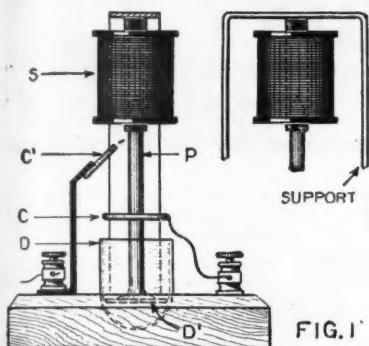
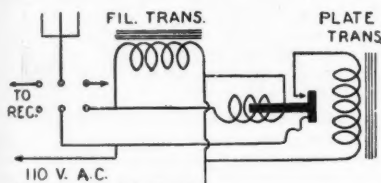

FIG. 1
FIG. 2
When the platinum contact of a Ford spark coil vibrator burns off, a piece of stiff brass in the shape of a T is discarded. This piece, shown at Fig. 1, has many uses, a few of which follow:
1. *A Bushing for Varico-couplers.* Bend the whole piece in the shape of a "U," after drilling a $\frac{1}{4}$ -inch hole about $\frac{5}{16}$ inches from the "T" end. The addition of a small coil spring makes a bushing almost identical with those used on a well-known commercial tuner. The method of assembly is shown in Fig. 2. This solves the most difficult problem in the construction of a home-made varicoupler.
(Fig. 1) was made by soldering two metal washers to the ends of a brass tube and winding the tube full of wire from the secondary of an old Ford spark coil. The
When the current is turned on, the plunger rises so that the contact C meets the contact C', thus completing the plate circuit. The speed with which the switch acts depends upon the thickness of the oil used in the dash-pot, or it can be regulated by a resistance in series with the instrument. Connections for the switch are shown in Fig. 2.
The corner posts are the keynote of this method of assembly. These, for the average set, will measure $1\frac{1}{2} \times 1\frac{1}{2} \times 7$ inches. Oak, or some other wood which suits the particular taste, may be used. Grooves are cut as shown in Fig. 1. The width of these will depend upon the thickness of the veneer or panel material used. They should have a depth of about $\frac{5}{16}$ of an inch. If you prefer to make a cabinet with space for "B" batteries the arrangement shown in Fig. 3 may be used. In this case six or eight posts will be needed instead of four. The space allowed for the "B" batteries would be at least $4\frac{1}{2}$ inches wide and seven or eight inches long. Its exact dimensions should really be planned to make a snug fit with the actual batteries used.
actually filters a little. The "Six" that you heard undoubtedly was using something on the order of a so-called brute-force filter (see Ballentine if you don't believe me). A filter of this type (refer to Fig. 1 here), will usually succeed in smoothing out some of the worst possible notes; and if it is used in connection with a properly tuned set, you will soon be surprising yourself by rolling
at least 30-henry size or preferably a 40 or a 50. The condensers C and C_1 should be identical in size, and may consist of one or more capacities. If so, they are of course connected in parallel. The capacity of the two units, C and C_1 , should be at least 2 $\mu f.$ each; 4 $\mu f.$ will probably be found better, and of course capacities between these two may also be employed. In any event, a filter consisting of a 30-henry choke and 8 $\mu f.$ capacity will usually smooth out the most refractory note that it is possible to pull out of any rectifier in existence. In Fig. 1, no transformer or rectifier circuit is shown, because this is left up to you. You are probably using some type of rectifier at the present time, and so a filter system like the one shown can be added to your installation without any other changes.
Fig. 1 above shows how to connect a filter to obtain that much desired D.C. note. Fig. 2 shows how to filter a motor generator. Fig. 3 indicates the two worst possible keying connections; while Fig. 4 shows the very best of any that can be used. If you use a good filter and key properly, you will get out better and furthermore will not trouble the BCLs.
To operate properly a filter of this sort, the choke coil shown in Fig. 1 should be